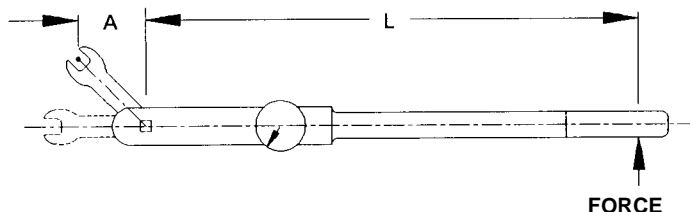

FIGURE 1-6 TORQUE WRENCH WITH ADAPTOR AT ANY ANGLE
9. The ratio of actual torque at the fastener with that on the wrench scale is a function of the adapter's length and its position in relation to the torque wrench beam and the location on that at which the force is applied (see Figure 1-6).